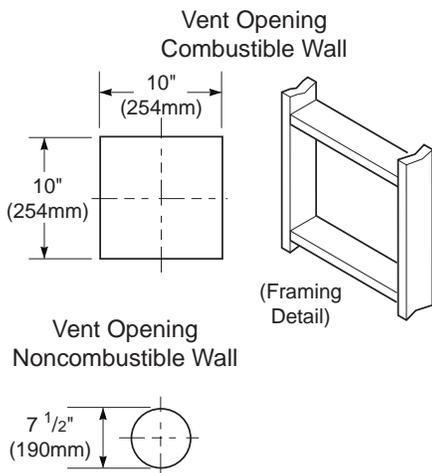
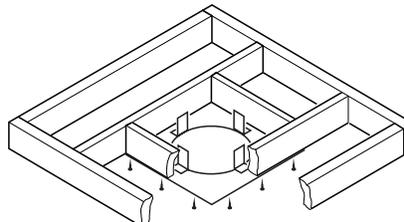

Figure 12 - Vent Opening Requirements
Figure 21 - Installing Firestop
- Attach vent pipe assembly to the fireplace. Set fireplace in front of its permanent location to insure minimum clearances. Mark the wall for a 10" square hole (for noncombustible material such as masonry block or concrete, a 7 1/2" diameter hole is acceptable). See Figure 12. The center of the hole should line up with the centerline of the horizontal rigid vent pipe. Cut a 10"x10" (254mm x 254mm) square hole through combustible exterior wall (7 1/2" [190mm] diameter hole if noncombustible). Frame as necessary (see Figure 12).
1. Cut a 10" square hole in the ceiling using the locating hole as a center point. The opening should be framed to 10"x10" (254mm x 254mm) inside dimensions, as shown in Figure 12 on page 9 using framing lumber the same size as the ceiling joists. If the area above the ceiling is an insulated ceiling or a room, nail firestop from the top side. This prevents loose insulation from falling into the required clearance space. Otherwise, install firestop below the framed hole. The firestop should be installed with no less than three nails per side (see Figure 21).
3. Cut a hole in the roof using the locating hole as a center point. (Cover any exposed open vent pipes before cutting hole in roof.) The 10"x10" hole must be measured on the horizontal; actual length may be larger depending on the pitch of the roof. There must be a 1" clearance from the vent pipe to combustible materials. Frame the opening as shown in Figure 12, page 9.